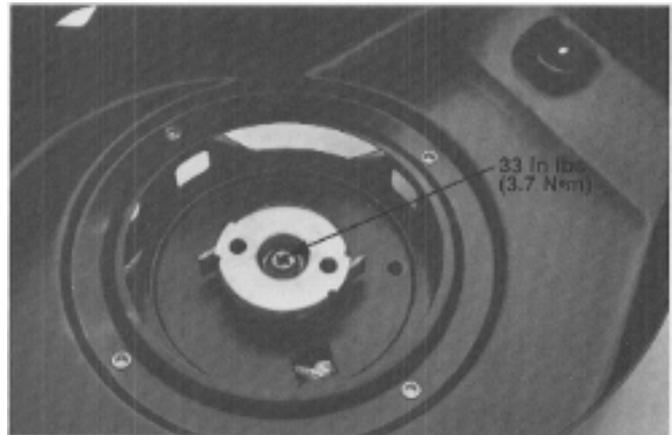

Figure 59
4. Install the retaining plate and Phillips shoulder screw. Tighten the screw to a torque of 33 in lbs (3.7 N•m). (Figure 59).